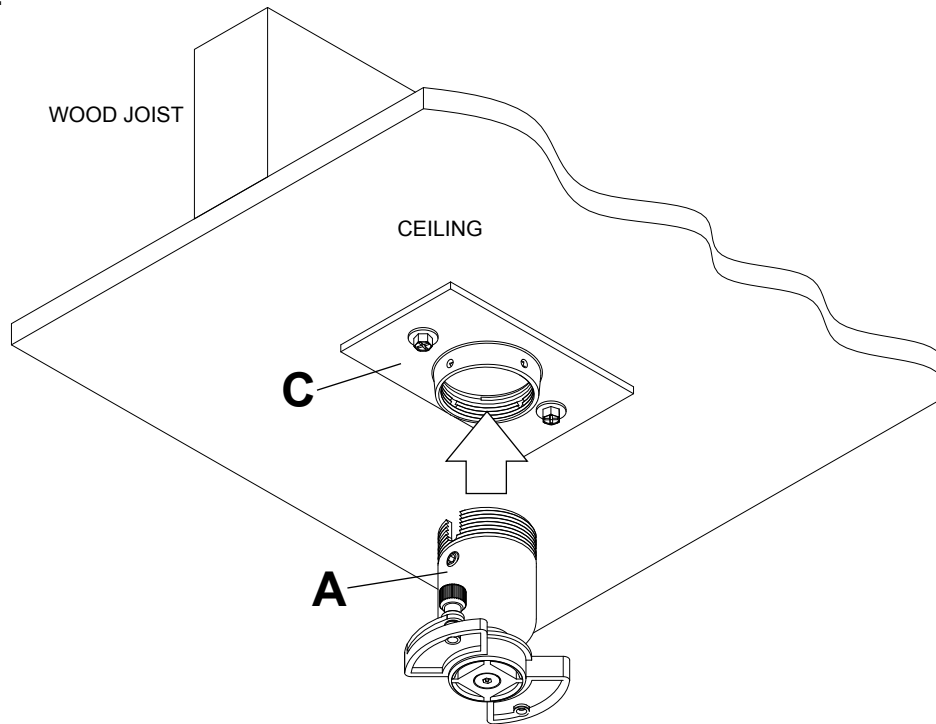
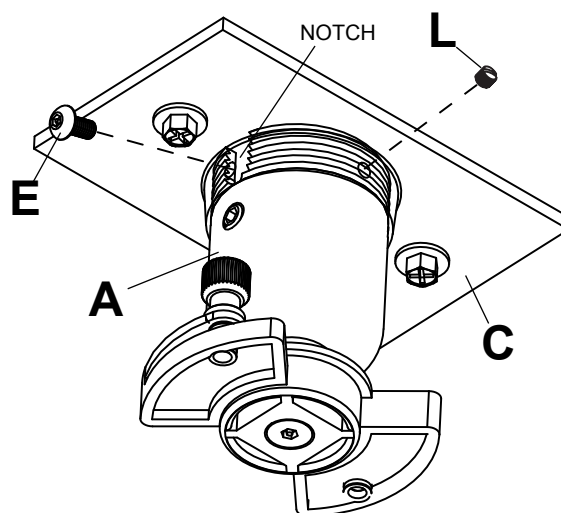

figure 3.1
figure 3.2
- 3** Screw ball and socket mount (A) into ceiling plate (C) as shown in **figure 3.1**. Align the notch with one of the four holes of the ceiling plate (C) and secure ball and socket mount (A) with a M5 x 10 mm socket pin screw (E) using security allen wrench (U) as shown in **figure 3.2**